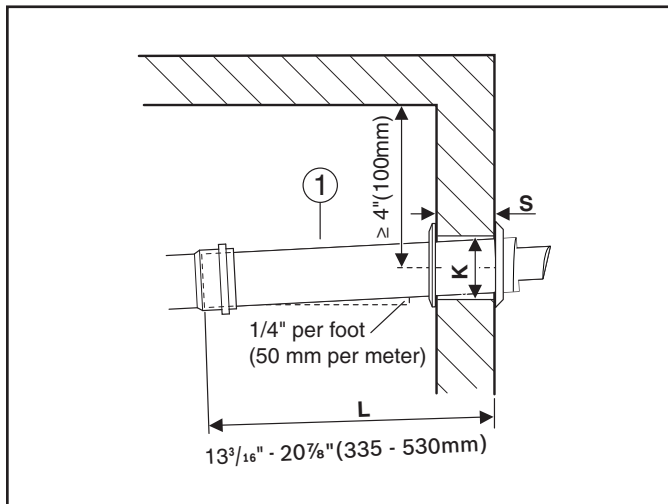

Fig. 4 Penetration through the outside wall
- Measure the length of the vent terminal assembly (→ Fig. 4, [1]) taking into account the thickness of the outside wall [S] and the distance from the outside wall to the end of the vent pipe [L]. It is recommended to keep at least 4" (100mm) clearance from the ceiling or joists for accessibility reasons.
- ▶ Ensure all components are properly connected and aligned, and that the termination has the proper pitch as shown in Fig. 4.